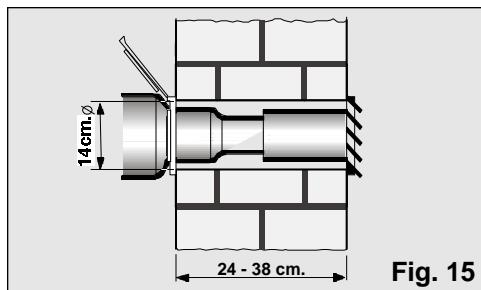

Fig. 15
- To expel hot air through the wall, it is necessary to make an 14-cm diameter hole in the wall and fit the wall grommet, Fig. 15.